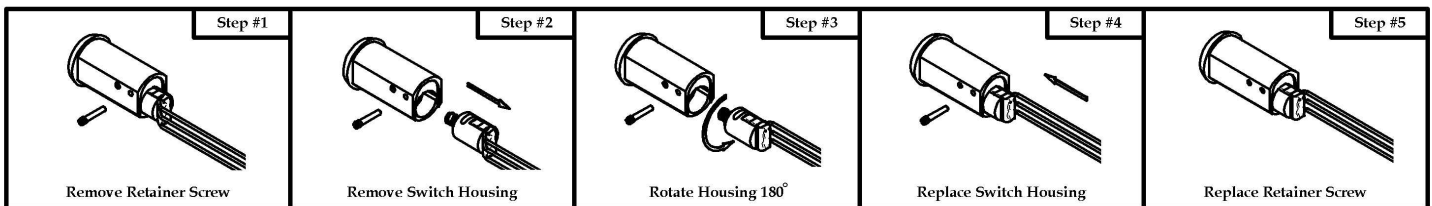
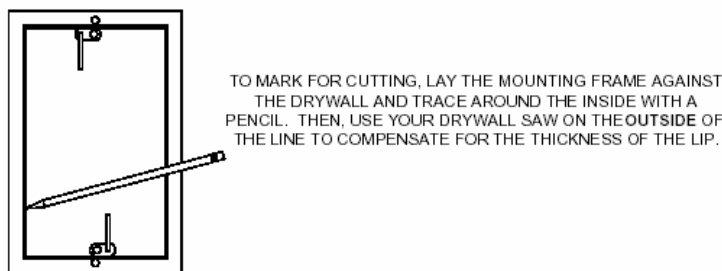

**Figure 3.1**
**Figure 3.2**
**Figure 3.1** and **Figure 3.2** below illustrate the assembly of the three parts which make up the Double D Micro-Switch Unit (#1). The parts of the Double D Micro-Switch Unit are (#2) Main Switch Housing, (#3) Actuator Cam and (#4) Spring, Cam. There is only one method to correctly align the part assembly.
When converting Double D Micro-Switch Unit from **Momentary** operation to **Alternate** operation or from **Alternate** operation to **Momentary** operation follow the visual instructions below in **Steps 1 - 5**. Keep the Double D Micro-Switch Unit parts assembled as explained in **Figure 3.1** and **Figure 3.2**.